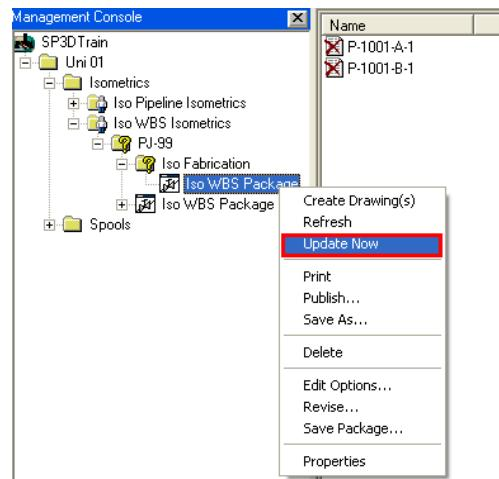

Figure 65: Updating Drawing Documents
12. Right-click the **Iso WBS Package** isometric drawing type and click the **Update Now** option, as shown in Figure 65, to update the isometric drawings.